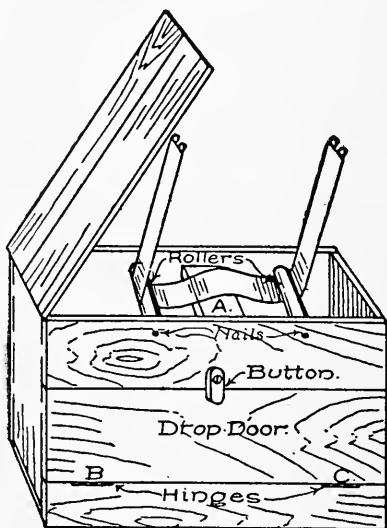

FIG. 61. — A Blacking-case.
**A Blacking-case** made similar to Fig. 61 is a handy article for a boy to have in his room. As the friction